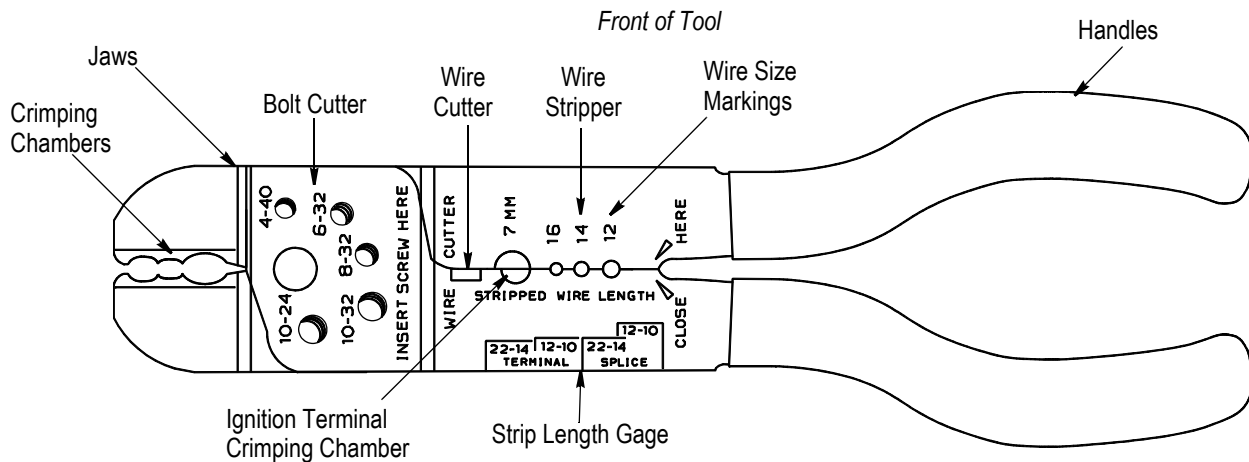

Figure 1
SUPER CHAMP Hand Tool 696201-1, shown in Figure 1, is used to cut and strip wire and crimp the insulated terminals and splices to wires listed in Figure 2 and 7-mm ignition terminals. The tool is also capable of cutting bolts.
The hand tool consists of two jaws and handles. The jaws feature crimping chambers, a bolt cutter, wire cutter, wire stripper, and strip length gage. See Figure 1.
1. Insert the terminal in the crimping chamber marked "7 MM". See Figure 1. Center the wire barrel in the crimping chamber.
2. Thread the bolt into the appropriate-sized opening on the side of the tool marked, "INSERT SCREW HERE". See Figure 1.
- Modified Figures 1 and 2